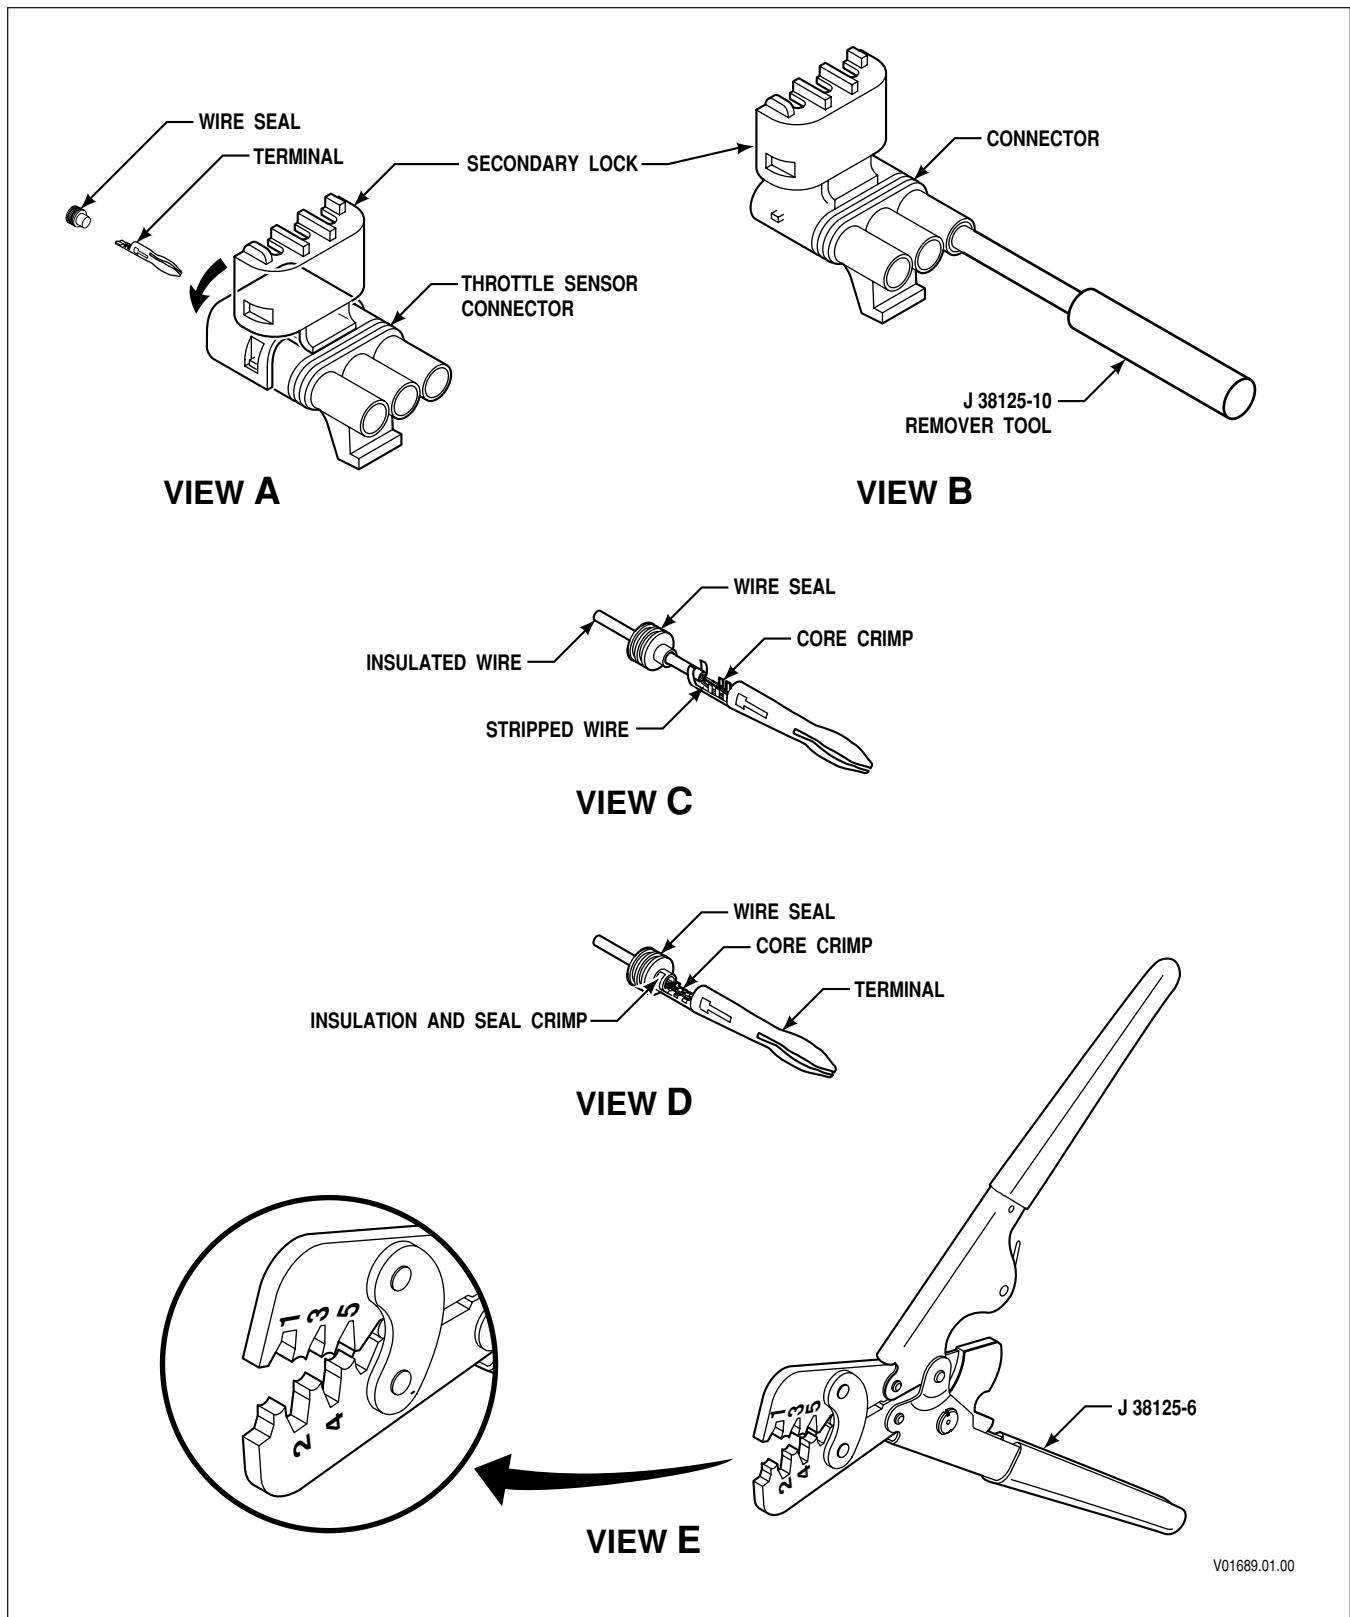

Figure E-7A. Delphi-Packard WeatherPack Connectors (TPS)
A. Connector/Terminal Repairs (refer to Figure E-7A)
1. Unlatch and open the secondary lock on the connector (refer to Figure E-7A, View A).
2. From the front of the connector, insert removal tool J 38125-10 over the terminal. Push the tool over the terminal and pull the terminal out the back of the connector (refer to Figure E-7A, View B).
1. Place the wire seal onto the wire before stripping the wire (refer to Figure E-7A, View C).
3. Place the terminal onto crimping tool J 38125-6 (refer to Figure E-7A, View E), anvil “2.”
5. Insert the wire so that the stripped portion of the wire is in the core crimp area and the insulated portion of the wire is in the insulation crimping area (refer to Figure E-7A, View C).
8. Push the wire seal onto the terminal (refer to Figure E-7A, View D). The second crimp will wrap around the wire seal. This will seal the insulated area of the wire.